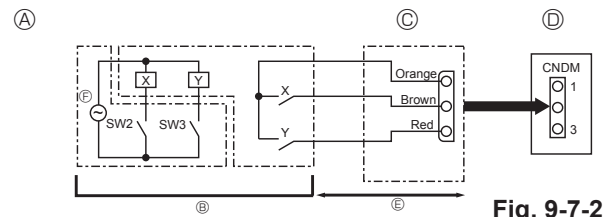

Fig. 9-7-2
9.7.2. Demand function (on-site modification) (Fig. 9-7-2)